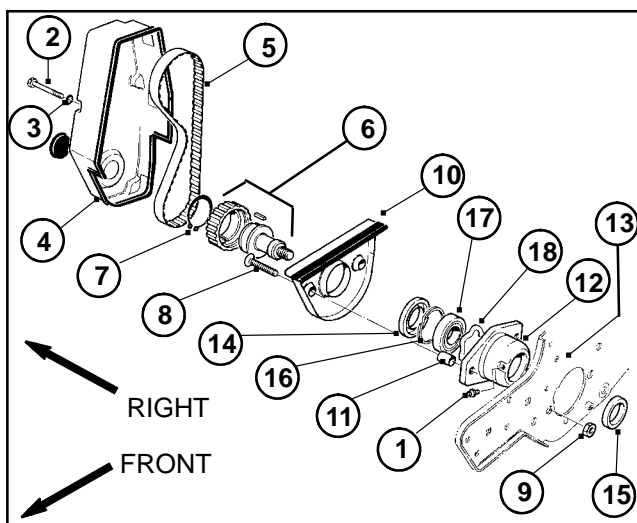
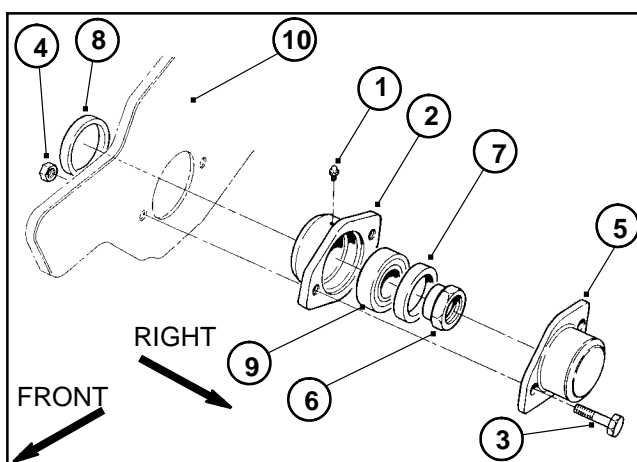

Figure 38
Figure 39
4. Remove four cap screws, four lock washers, and reel drive cover from the mower. Mark bearing housing (RH) for reassembly purposes (Fig. 38).
6. Use a 1/2-inch drive in the pulley and drive assembly (Fig. 38) to remove the assembly from the reel drive shaft. Also, remove bearing lock nut (Fig. 39) from the reel drive shaft at the same time.
7. Use an allen wrench and remove both flat head screws, groomer arm cover, and both cover standoffs from the bearing housing (Fig. 38).
8. Remove both cap screws, lock nuts, and bearing cover from the bearing housing (LH) (Fig. 39).
9. Remove grease fittings from both bearing housings (Fig. 38 and 39).
10. Pull both bearing housings from the frame and reel (Fig. 38 and 39). Remove the reel from the mower.
- A. Remove large seal, small seal, and bearing from the bearing housing (Fig. 39).
- B. Remove bearing seal, retaining ring, bearing, and wave washer from the bearing housing. Discard wave washer (Fig. 38).
2. Reassemble bearing housing (LH) components (Fig. 39).
3. Reassemble bearing housing (RH) components (Fig. 38).
A. Bearing housing (RH) should be marked from disassembly.
5. Attach bearing housing (RH) through the frame onto the reel shaft (Fig. 38).
6. Attach bearing housing (LH) through the frame onto the reel shaft (Fig. 39).
7. While tightening the bearing lock nut (Fig. 39) to the reel shaft, tighten pulley and drive assembly (Fig. 38) to the reel shaft at the same time. Torque assembly and nut to 50 ft-lb (6.9 kg-m).
8. Tighten flat head screws and nuts securing the bearing housing (RH) to the frame (Fig. 38).
9. Remove both cap screws and lock nuts holding the bearing housing (LH) to the frame. Position bearing cover to housing and secure to frame with both cap screws and lock nuts (Fig. 39).
11. Reinstall reel drive cover with four lock washers and cap screws to the mower. Tighten cap screws (Fig. 38).
12. Reinstall grease fittings to both bearing housings. Lubricate both housings with No. 2 multipurpose lithium base grease (Fig. 39 and 38).